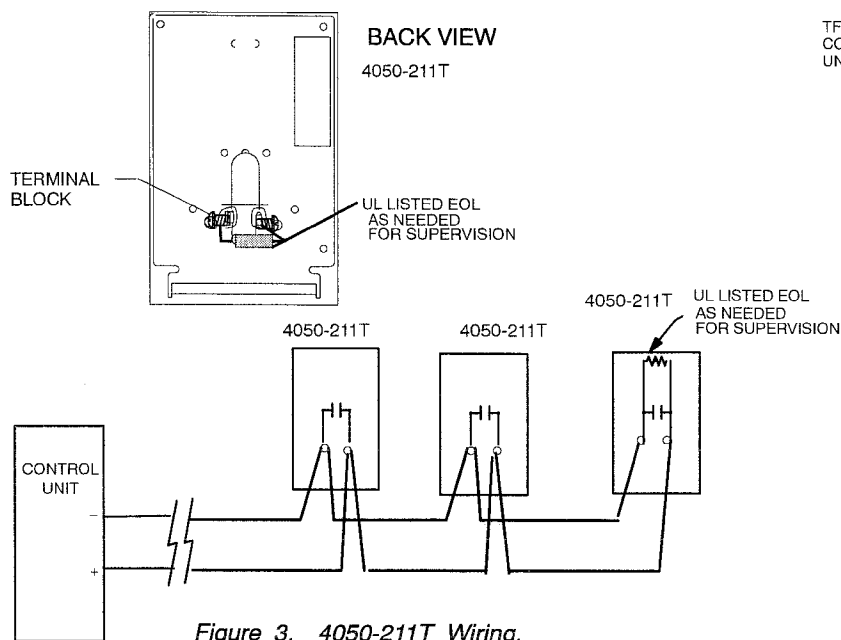

Figure 3. 4050-211T Wiring.
**WIRING NOTES—Model 4050-211T (Figure 3)**